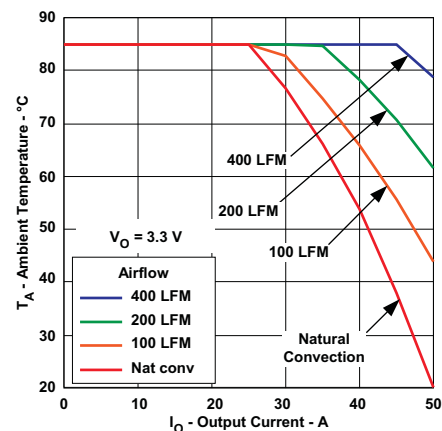
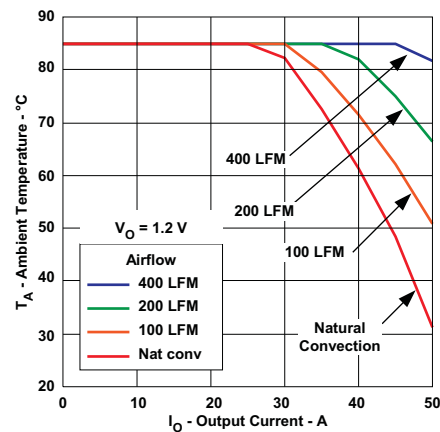

Figure 4. Ambient Temperature versus Output Current
Figure 5. Ambient Temperature versus Output Current
- (12) The temperature derating curves represent the conditions at which internal components are at or below the manufacturer's maximum operating temperatures. Derating limits apply to modules soldered directly to a 100 mm x 100 mm double-sided PCB with 2 oz. copper. Applies to Figure 4 and Figure 5.